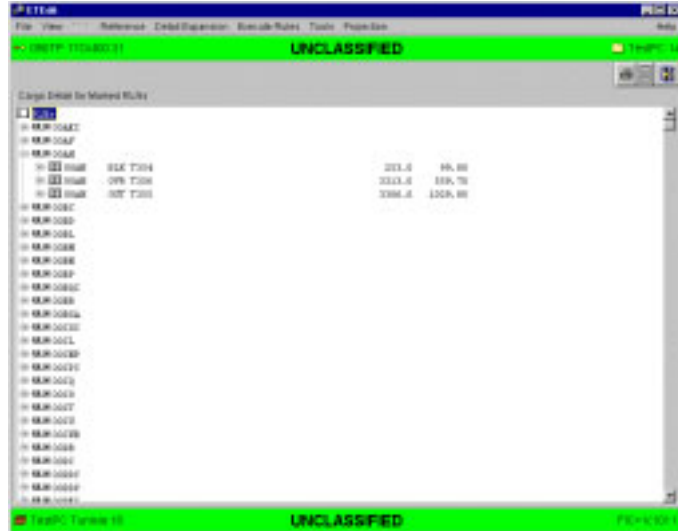

Figure 5.88 ETEdit (Main) Window (Cargo Details Level Two)
- a. At the left of a ULN, click . The second level of cargo details for the selected ULN is displayed (Figure 5.88).